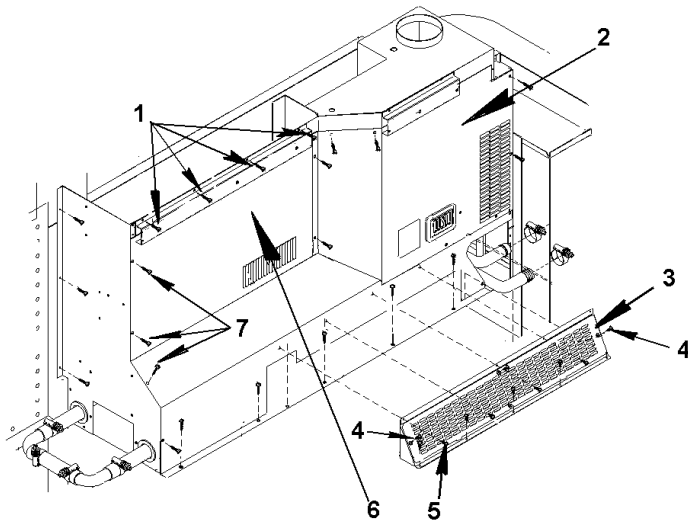

Figure 202 Access Main Front Heater
- a. Locate all surface mounting screws at base of drivers heater panel (Fig. 202, Items 4 and 5).